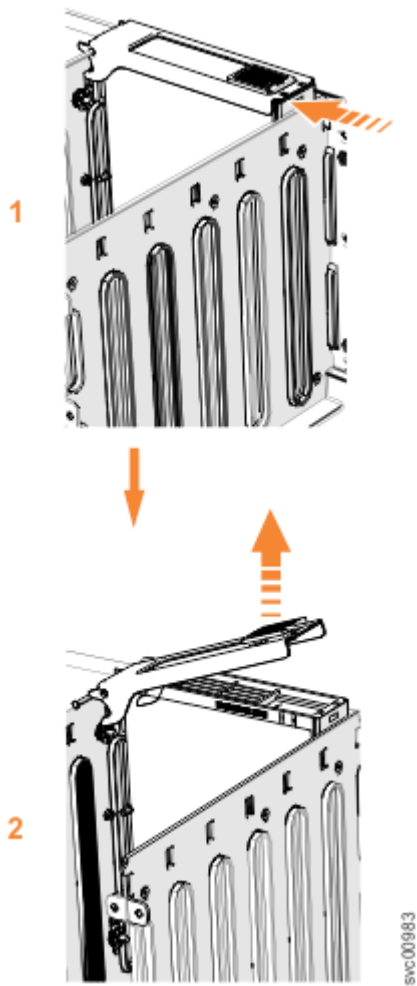

Figure 129. Remove the drive assembly
5. Slide the release latch forward (1), as shown in Figure 129 on page 178.
6. Lift the handle (2) to unlock the drive carrier from the partition, as shown in Figure 129 on page 178. Ensure the toe on the bottom of the latch is fully disengaged.